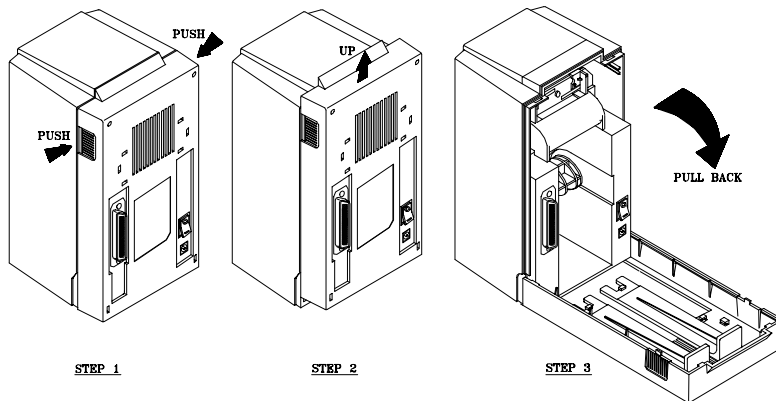

Fig. 2.3.1
2. Press the two lock switches (part 6) and lift **up** a little to open the rear cover (see figure 2.3.1).
2. Press the two lock switches (part 6) and lift **up** a little to open the rear cover. (See figure 2.3.1)